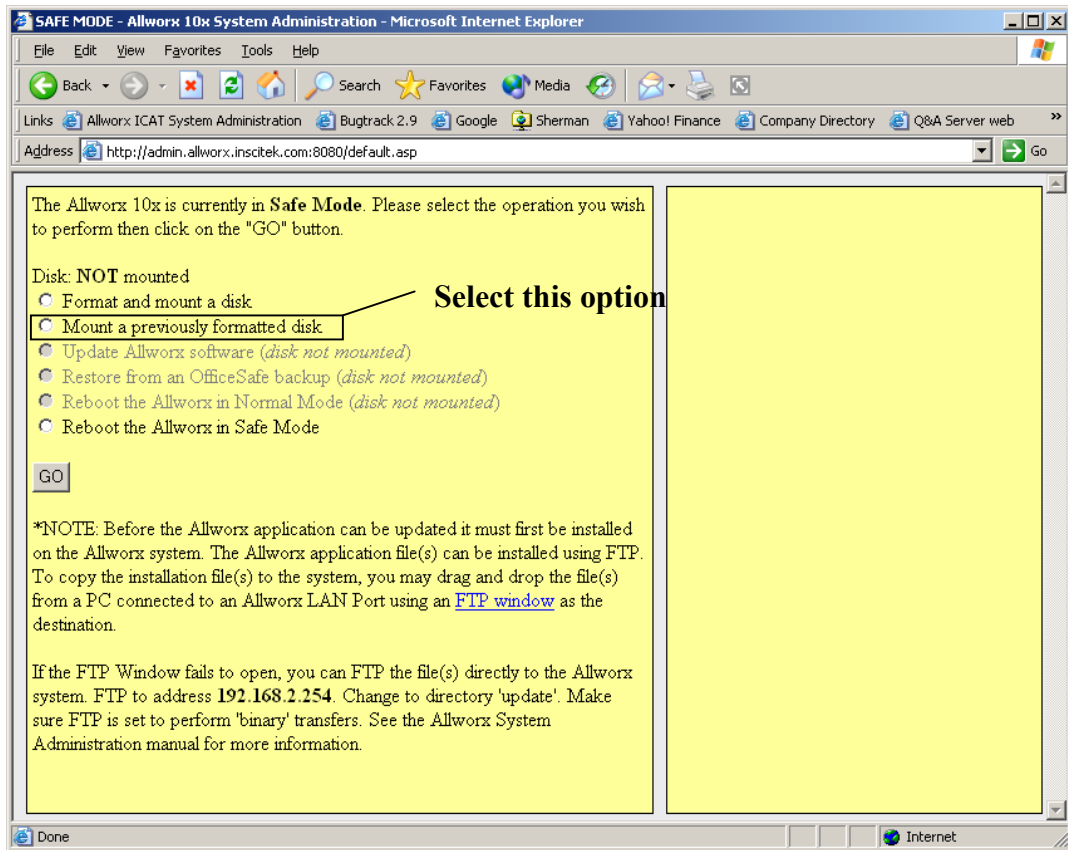

Figure 8-2 – Initial Safe Mode Window
12. The system is now in Safe Mode and the window in Figure 8-2 will appear.
14. The system is now in Safe Mode and the window in Figure 8-2 will appear.